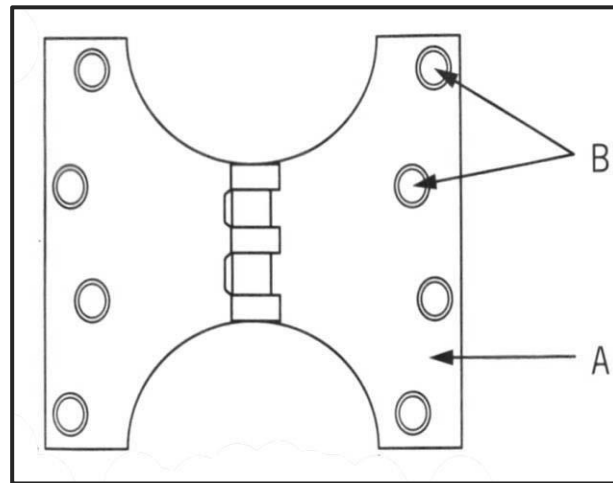

FIGURE 3.4
3.4 **FIGURE 3.4** below shows a hinge. Study the drawing and answer the questions that follow.
- 3.4.3 Explain the purpose of the type of hinge in **FIGURE 3.4**. (2)